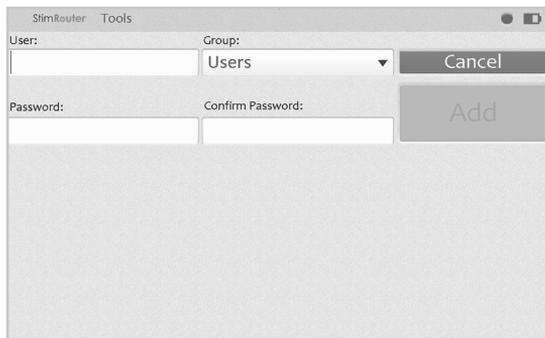

Figure 10-3: Add new user window
2. Enter a user name and password, confirm the password, select either “Users” or “Administrators” from the “Group” drop-down list, and then press the “Add” button. See Figure 10-3.